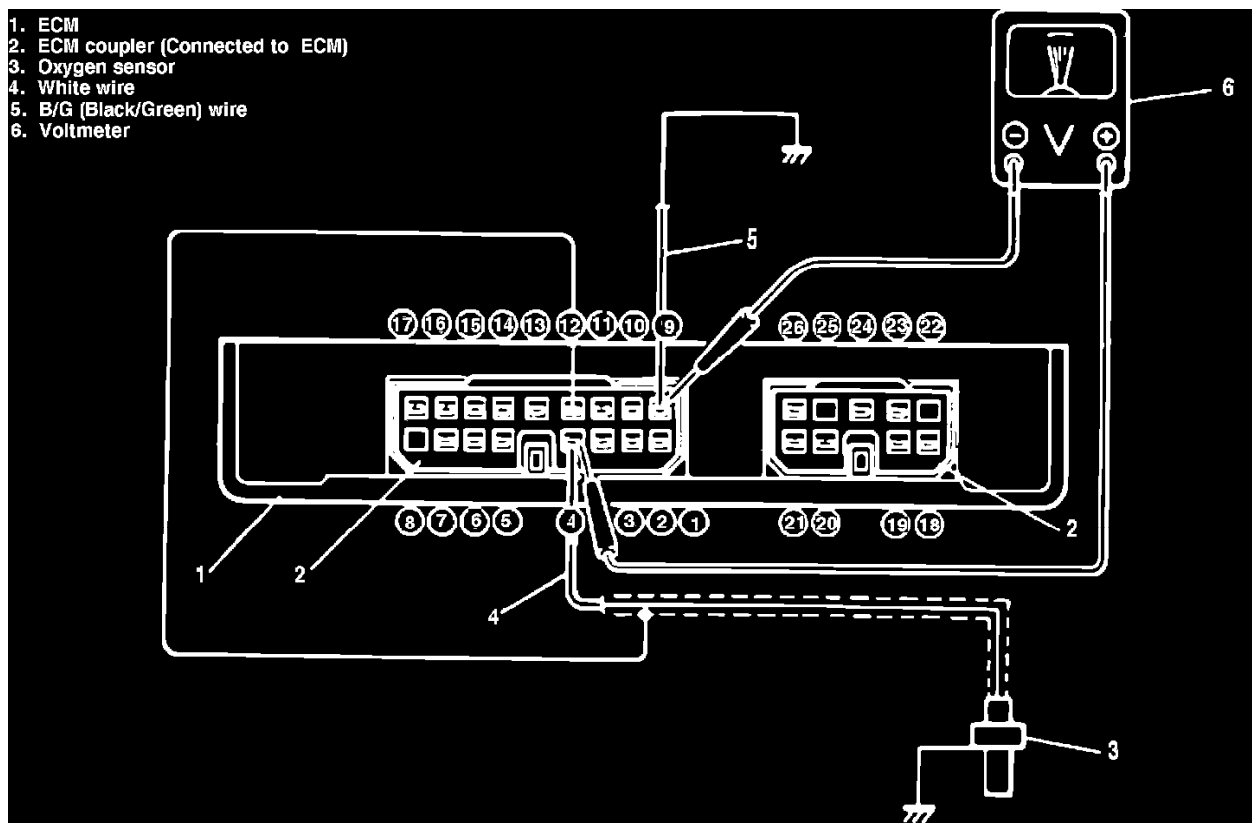

Fig. 45 Checking oxygen sensor signal. 1987 - 88 models
3. Connect voltmeter between terminals 4 (oxygen sensor signal) and 9 (ground), **Fig. 45**.